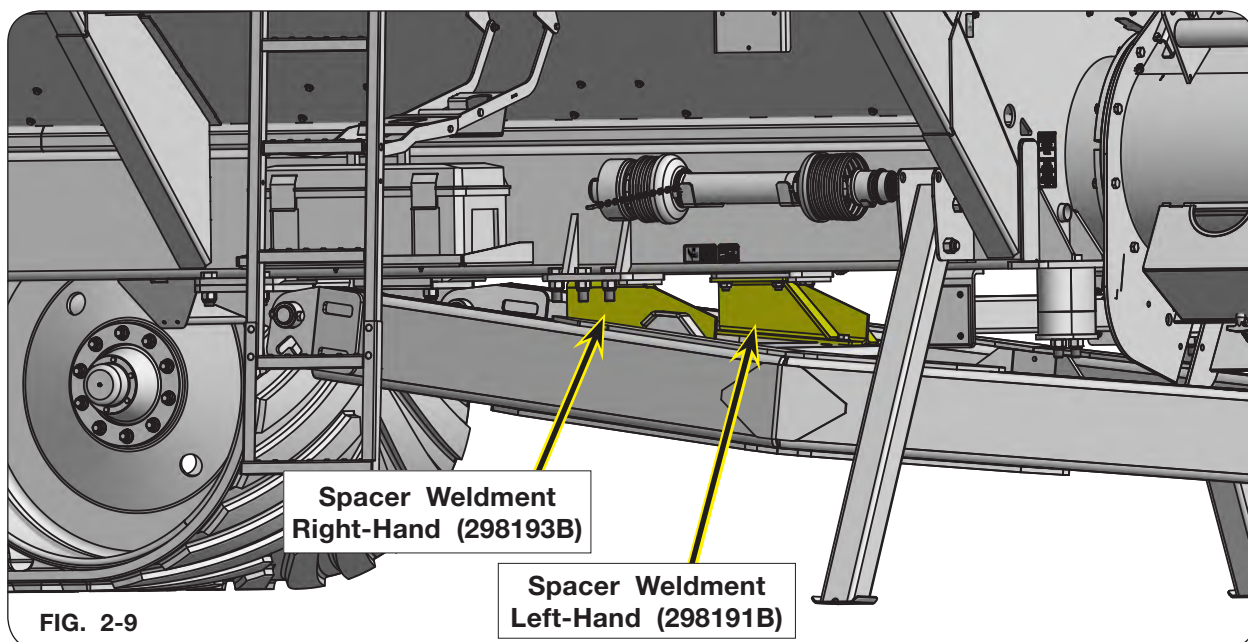

FIG. 2-9
8. Remove and save the 1"-14UNS elastic locknuts (9008441), 1" SAE flat washers (9405-116), and 1"-14UNS x 3" capscrews (9390-409) from the tongue. (FIG. 2-9)
9. Remove and discard the spacer weldments (left-hand 298191B and right-hand 298193B) from the tongue. (FIG. 2-9)